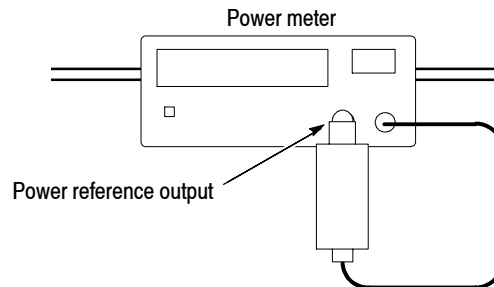

Figure 5-5: Hookup for calibrating the power sensor
- a. *Modify the hookup:* Connect the power sensor input to the power reference output of the power meter (see Figure 5-5).